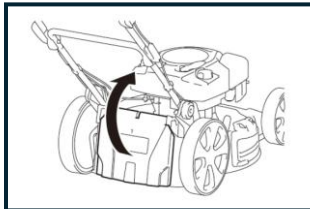

FIG 7A
7.1.1 Lift the rear discharge guard and assemble the grass catcher, as shown in Figures 7A and 7B.